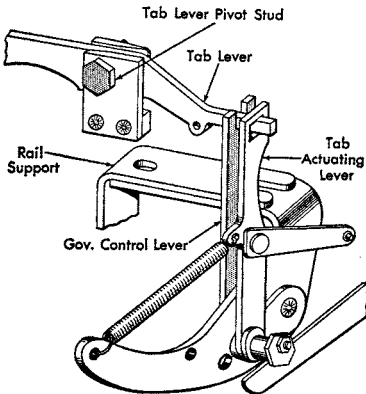

Figure 19. Tab Lever Pivot
1. TAB LEVER PIVOT STUD. Adjust for a slight amount of end play to prevent binding of the tab lever (Figure 19).